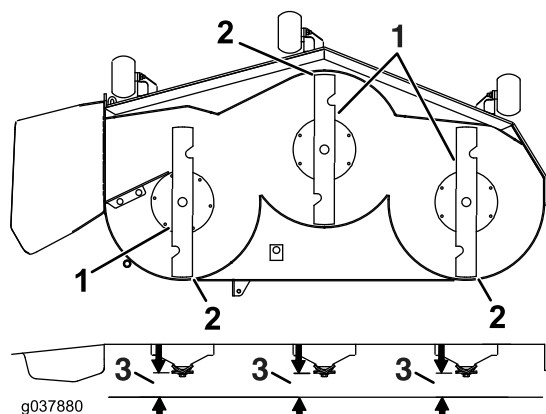

**Figure 107**
7. Check the front-to-rear blade level (Figure 107). Ensure the front blade tip is lower than the rear blade tip as shown in the block height and rake table. If adjustment is needed, continue with this procedure.